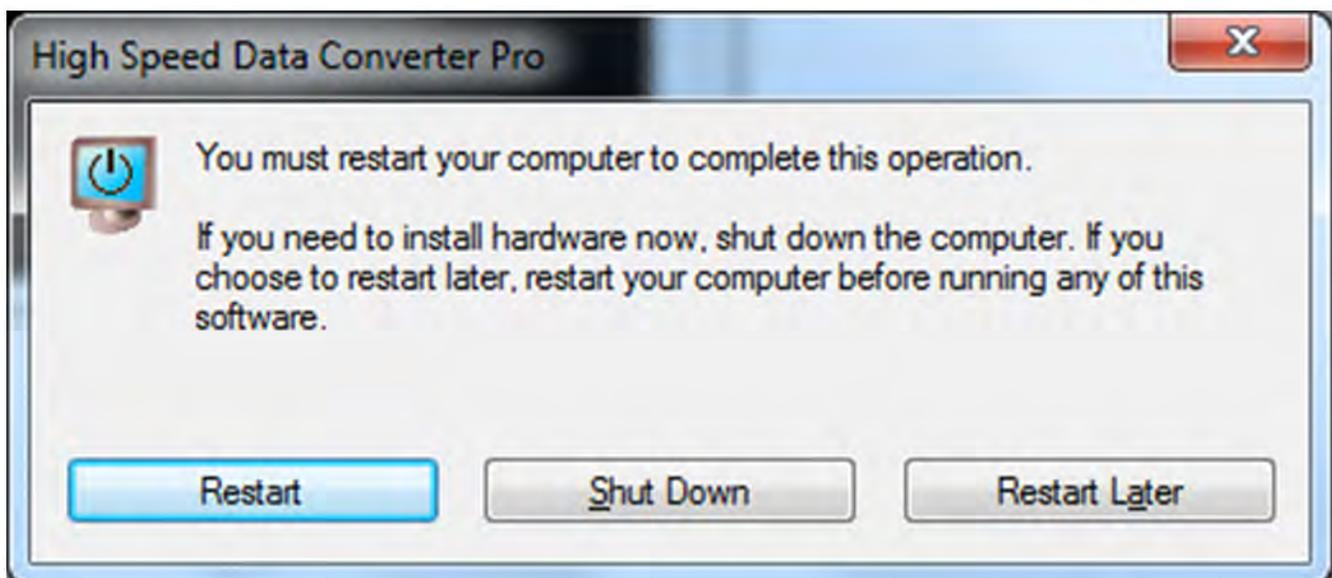

Figure 38. HSDCPro Install
- As shown in Figure 38 a restart might be requested depending on whether or not the PC already had the National Instruments MCR Installer. If requested, hit the *Restart* button to complete the installation.